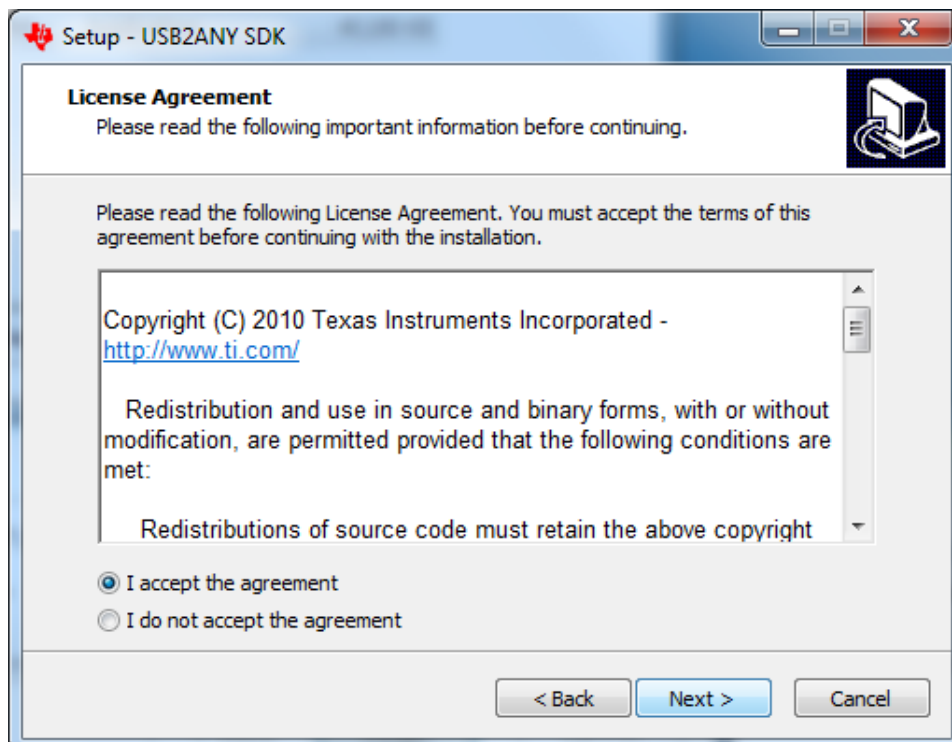

Figure 24. USB2ANY License Agreement
- The license agreement is displayed next as shown in Figure 24. Read through the agreement carefully and select the *I accept the agreement* radio button and then click the *Next >* button to proceed.